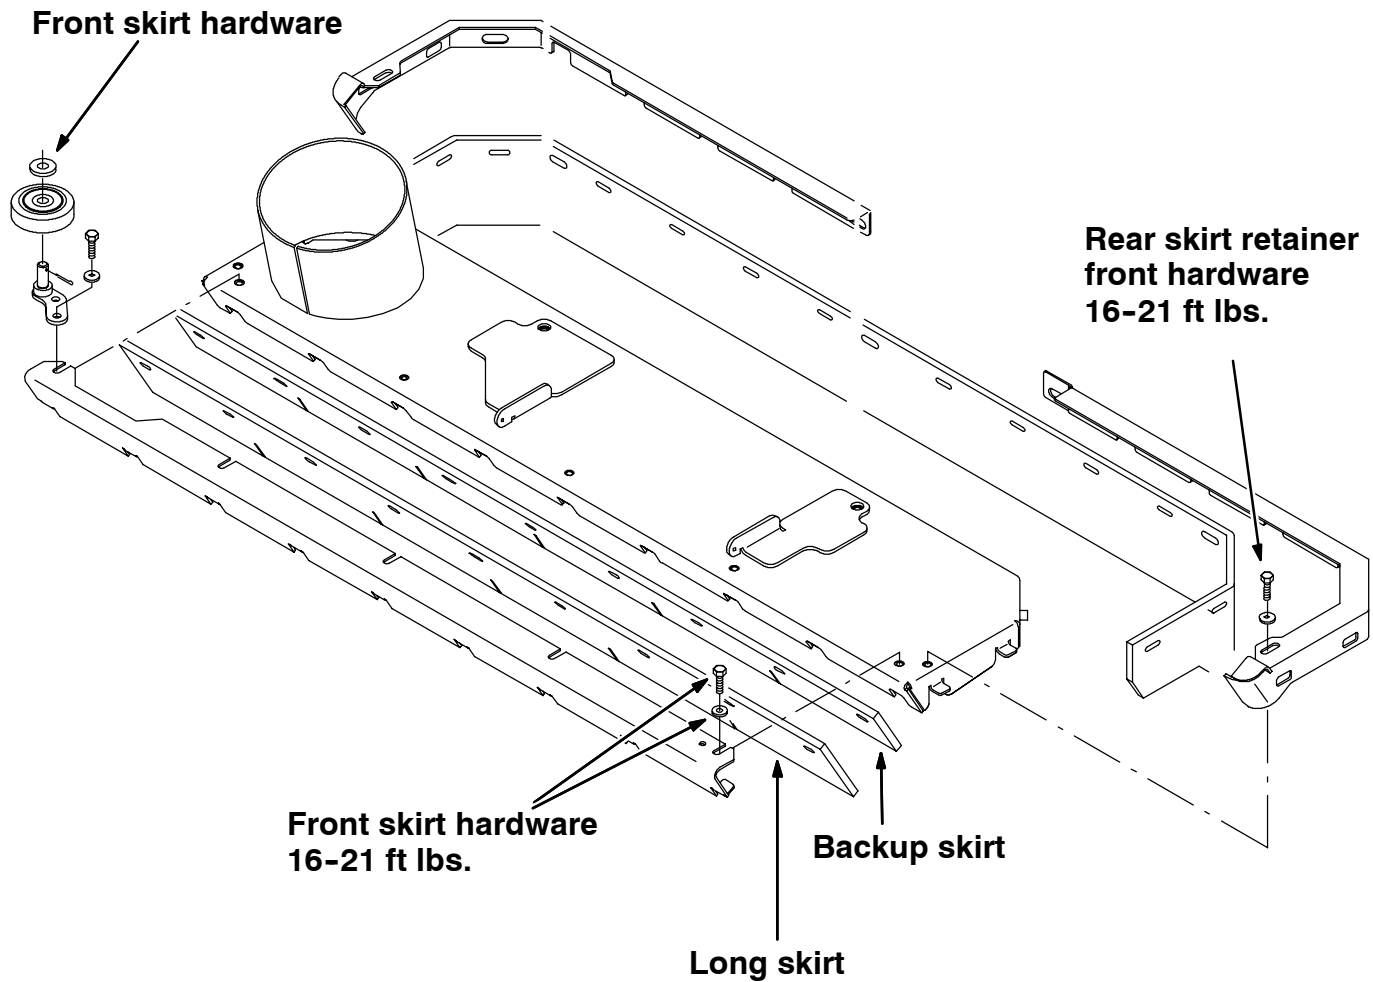

FIG. 1 - TURF SKIRT KIT INSTALLATION
(Refer to FIG. 1)
1. Loosen the front skirt securing hardware. (Refer to FIG. 1)
2. Remove and set aside the rear skirt retainers front mounting hardware. (Refer to FIG. 1)
3. Slide out and remove the existing front skirt. (Refer to FIG. 1)
4. Replace the old front skirt with both the longer and backup skirts. (Refer to FIG. 1)
5. Tighten the front skirt securing hardware. (Refer to FIG. 1)
6. Reassemble the rear skirt mounting hardware. (Refer to FIG. 1)